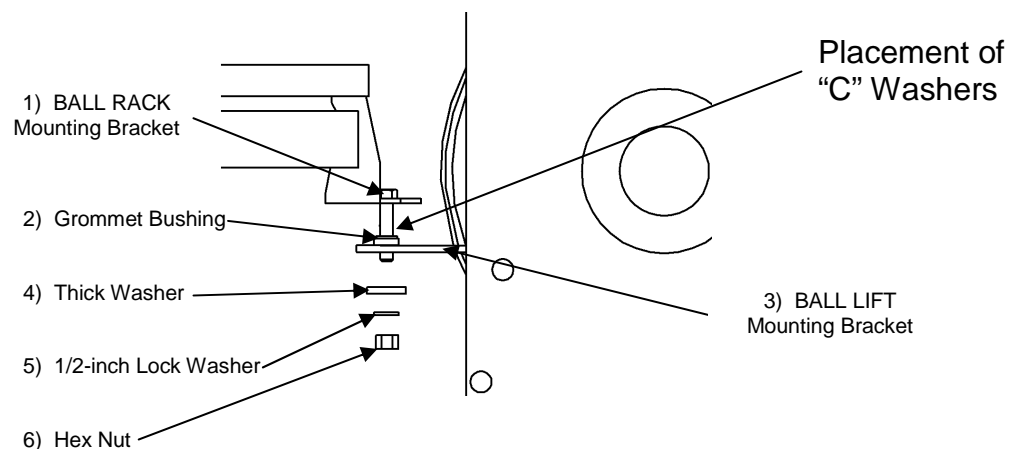

Figure 10, Washer Placement for Ball Rack Leveling
12. Place a level along the length of the top rail of the ball rack (either side) and check for level. If the end of the ball rack attached to the Ball Lift is low, add "C" washers (964-075-921 from the Hardware Bag directly under the mounting bracket of the ball rack. (See Figure 10.)